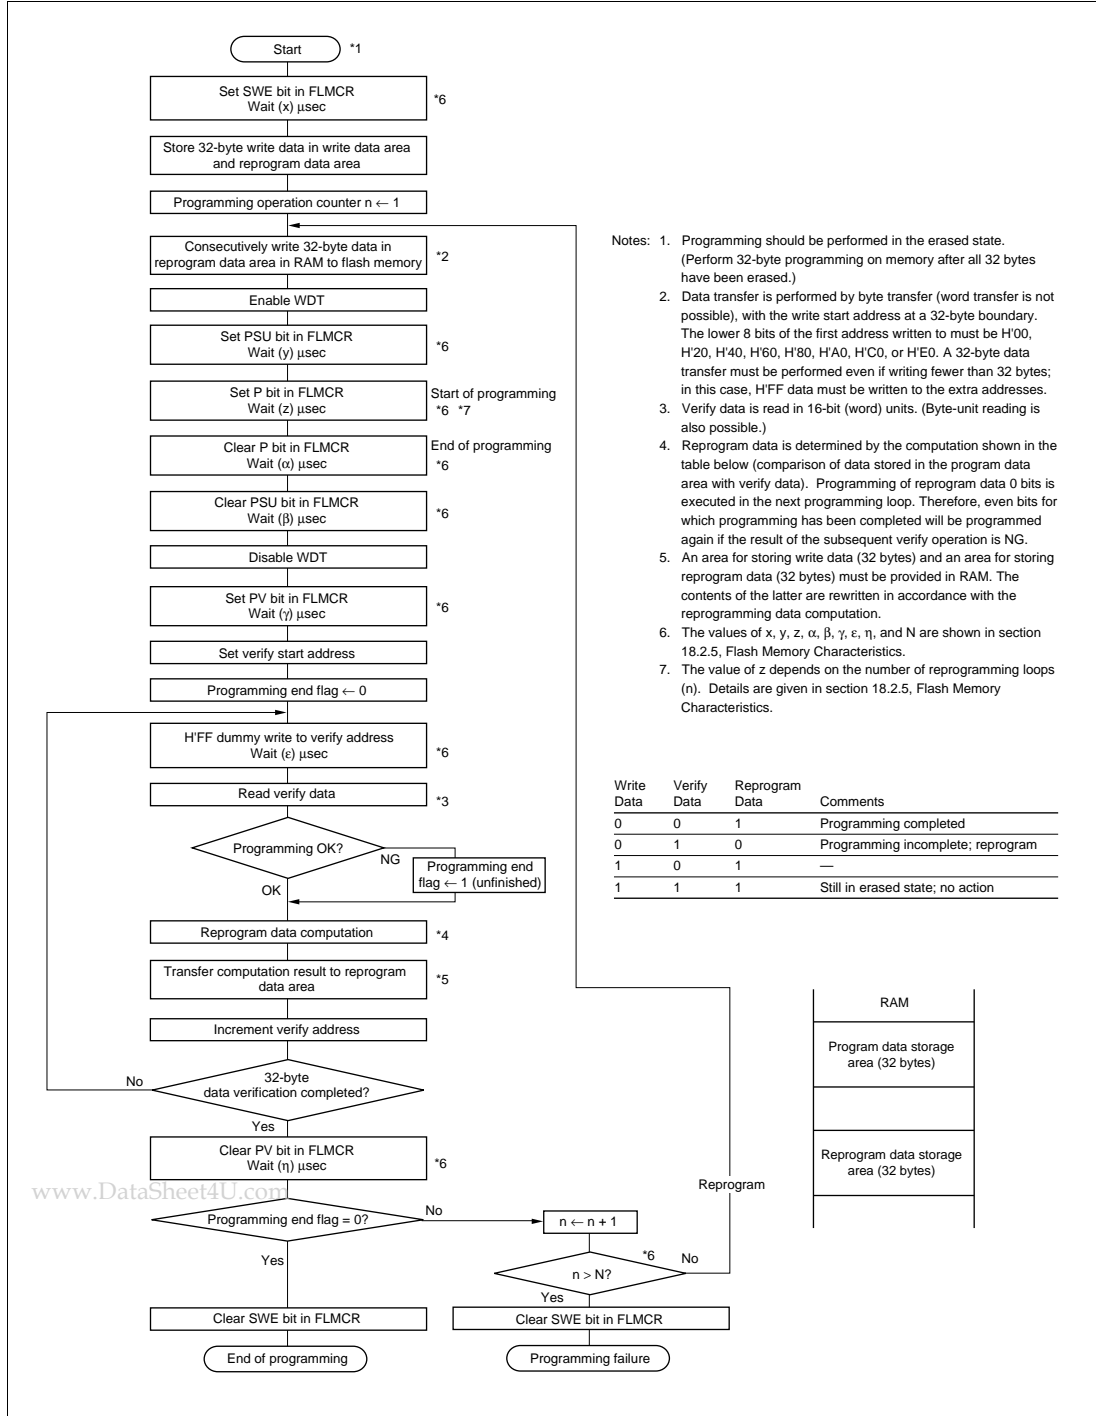

Figure 15-11 Program/Program-Verify Flowchart
Follow the procedure shown in the program/program-verify flowchart in figure 15-11 to write data or programs to flash memory. Performing program operations according to this flowchart will enable data or programs to be written to flash memory without subjecting the device to voltage stress or sacrificing program data reliability. Programming should be carried out 32 bytes at a time.
Clear the P bit in FLMCR, then wait for at least (α) μ s before clearing the PSU bit to exit program mode. After exiting program mode, the watchdog timer setting is also cleared. Then the operating mode is switched to program-verify mode by setting the PV bit in FLMCR. Before reading in program-verify mode, a dummy write of H'FF data should be made to the addresses to be read. The dummy write should be executed after the elapse of (γ) μ s or more. When the flash memory is read in this state (verify data is read in 16-bit units), the data at the latched address is read. Wait at least (ϵ) μ s after the dummy write before performing this read operation. Next, the originally written data is compared with the verify data, and reprogram data is computed (see figure 15-11) and transferred to RAM. After verification of 32 bytes of data has been completed, exit program-verify mode, wait for at least (η) μ s, then determine whether 32-byte programming has finished. If reprogramming is necessary, set program mode again, and repeat the program/program-verify sequence as before. However, ensure that the program/program-verify sequence is not repeated more than (N) times on the same bits.